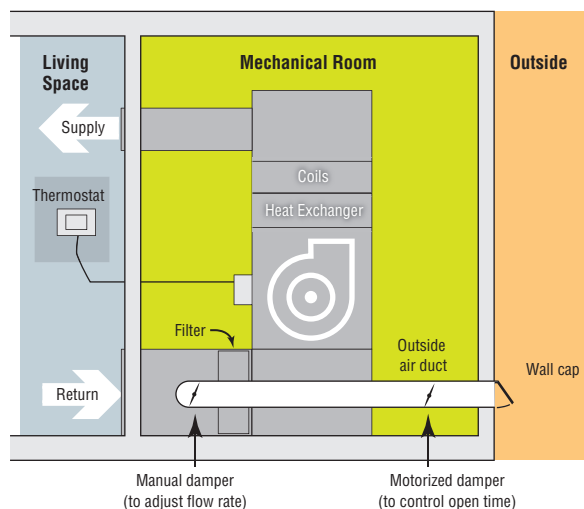

Figure 1. Central Fan Integrated System
- Central Fan Integrated Supply (CFIS) ventilation is the most commonly installed system in small commercial buildings. Consisting of an OA duct connected to the return air side of a typical split system, this approach relies on the air handling unit (AHU) to pull OA as well as return air from the building; after passing through a filter, the mixed air is conditioned and the supply ducts then distribute the air throughout the building (Figure 1).